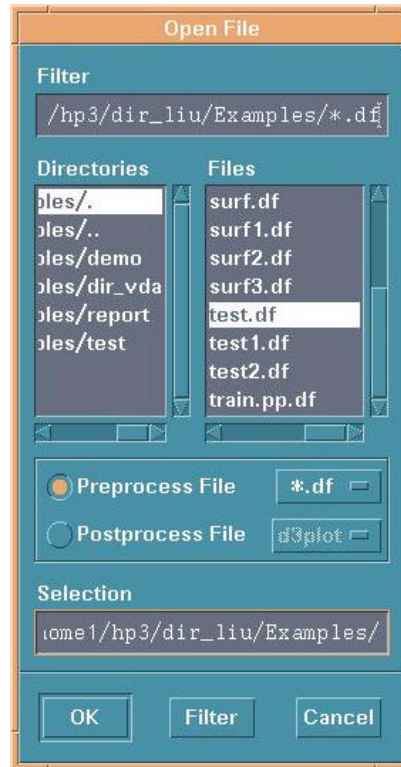

Figure 3.2.2 Open File
- Select the PREPROCESS FILE toggle. The user can open a DYNAFORM database for the preprocessor. The options are shown in Figure 3.2.2.